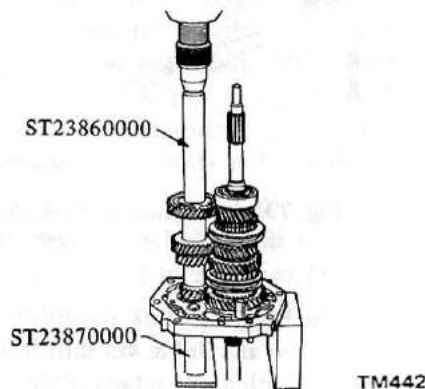

Fig. TM-33 Installing countershaft drive gear
4. Press counter drive gear onto countershaft with Counter Gear Drift ST23860000 by meshing gears and secure counter drive gear with thicker snap ring. See Figures TM-33 and TM-34.